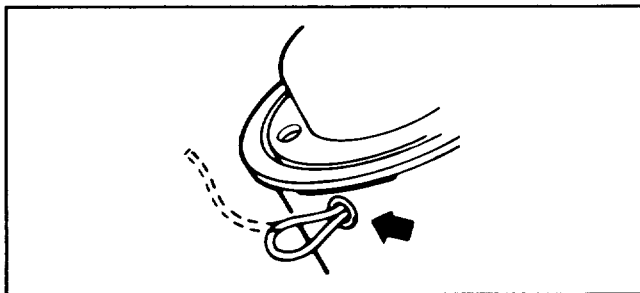

Figure 9
3. After each use, either retape or loop the line through the eyelet (Fig. 9) to prevent unraveling.